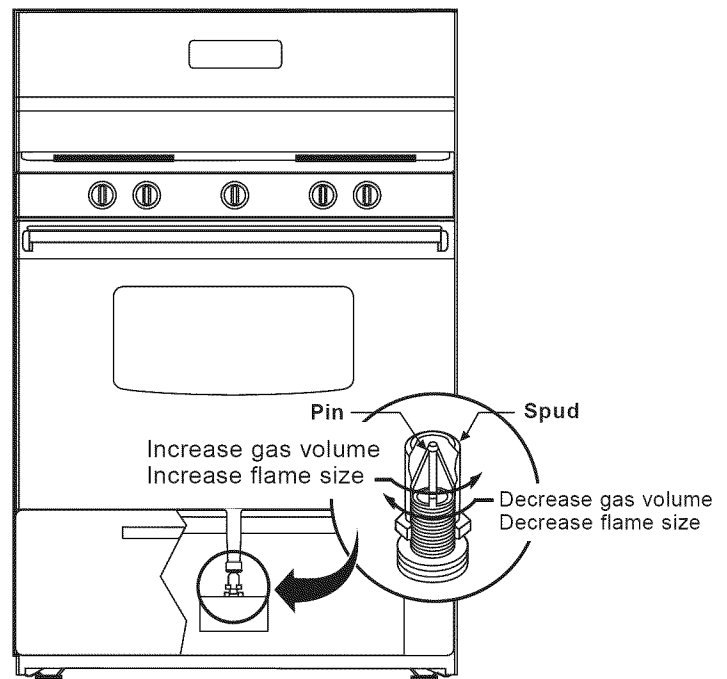

Fig. 4
- Locate the oven burner spud (See Fig. 4).